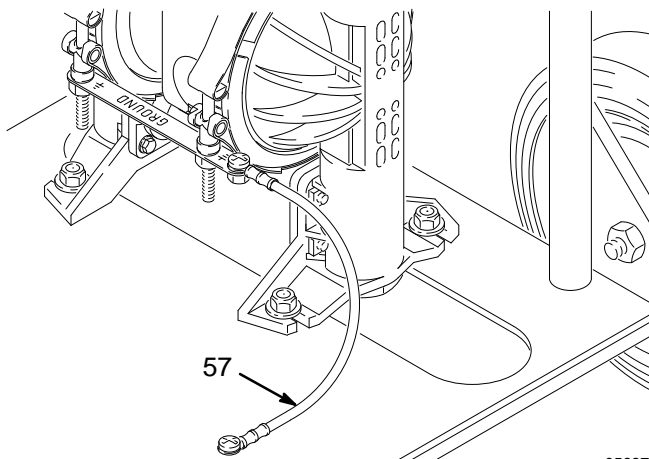

Fig. 4
2. Be sure the pump's ground wire (57) is not damaged and is securely connected to the cart. See Fig. 4.